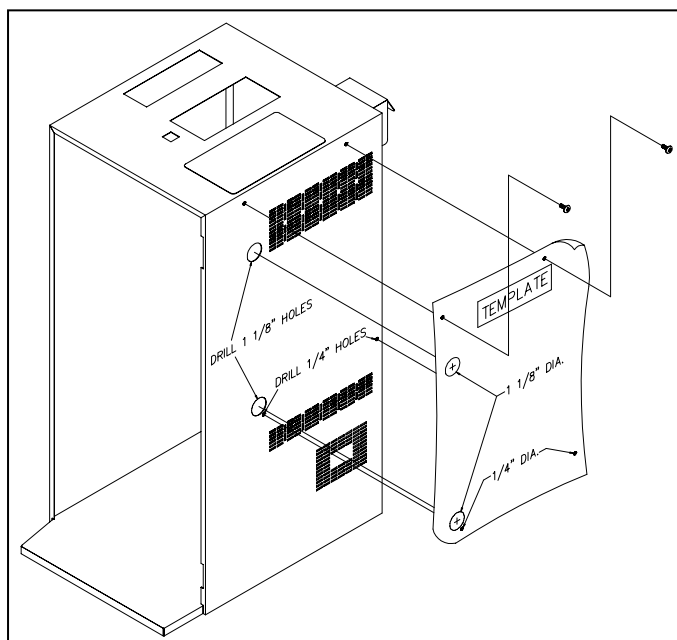

Figure 1 - Using the larger paper template, mark the location of the holes to be drilled on the side of the machine.
1. Using the large paper template provided, mark the holes that need to be drilled on the right, outside wall of the machine (*figure 1*). A metal template is also available and can be purchased from VKI using part number K041044.
- a) For equipment with older water tank wraps, it is necessary to first remove the water tank assembly. Using a hole saw attachment on a power drill, make two 1 1/8" diameter holes on the side of the machine, using the smaller holes made above as guides. Use figure 1 as a reference for the location of these two larger holes. Note that the two lower holes will be the smaller ones.